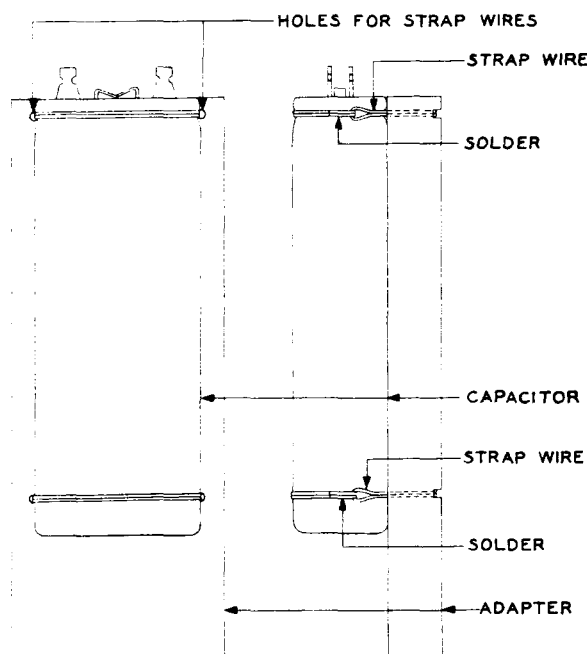

Fig. 1 - 447A Capacitor Mounted on P-431343 Adapter
**4.03** Position the capacitor or network on the ungrooved side of the adapter as shown in Fig. 1 so that the groove near the top of the capacitor or network is in line with the wire extending from the holes near the top of the adapter. Wrap the doubled wire around this groove so that the loop end of the wire is at one side of the capacitor or network. Then pass the cut ends of the wire through the loop, pull the wire tight with the P-long-nose pliers and bend the ends back from the loop. Cut off the ends of the wire leaving a length of approximately 1/4 inch behind the loop as shown in the figure. Press the ends of the wire against the wire in the groove and solder them in place. Similarly wrap and solder the wires extending through the other holes in the adapter.